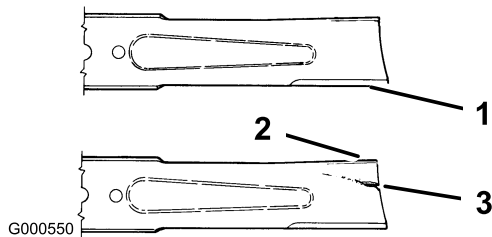

Figure 32
2. Inspect the cutting edges (Figure 32). If the edges are not sharp or have nicks, remove the blade and sharpen them; refer to Sharpening the Blade.
3. Inspect the blade, especially the curved area (Figure 32). If you notice any damage, wear, or a slot forming in this area (Figure 32), immediately install a new blade.